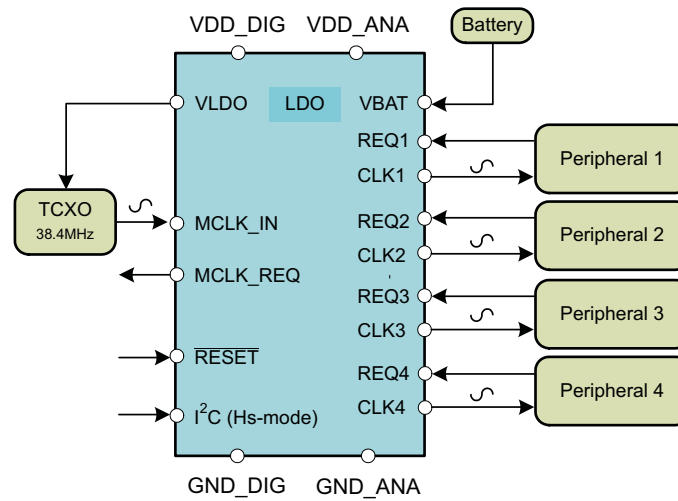

**Figure 26. Clock Output Enable Signal**
- (1) All data is transferred with the MSB first.
- (2) A device reset to default condition is initiated by a  $V_{DD\_DIG}$  power-up sequence.
- (3) "–" means that dedicated bits do not change at RESET.
- (4) Inactive as long as the REQxPRIO bit is low, external REQx pins are valid (see Figure 26)
- (5) Writing data beyond 03h may affect device function.